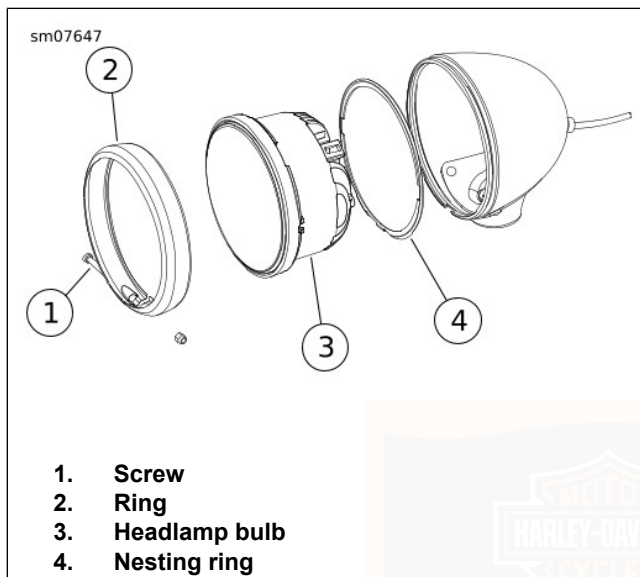

Figure 91. Headlamp Assembly
1. See Figure 91. Remove screw (1). Remove trim ring (2) from lamp housing.
1. See Figure 91. Place nesting ring (4) on back of **new** bulb (3) with the index tab facing away from bulb.